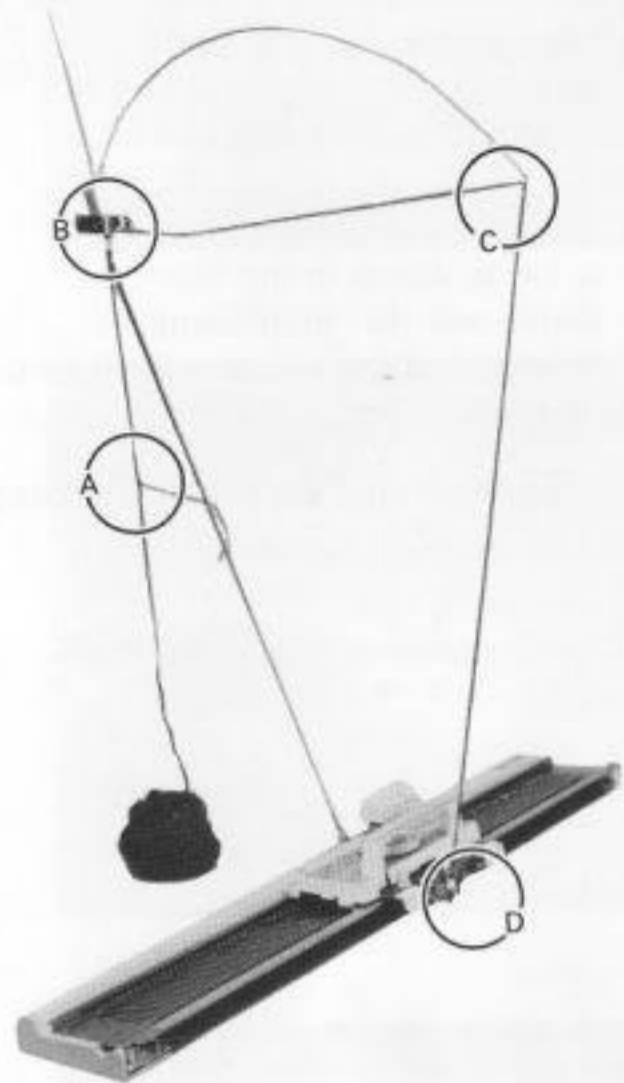
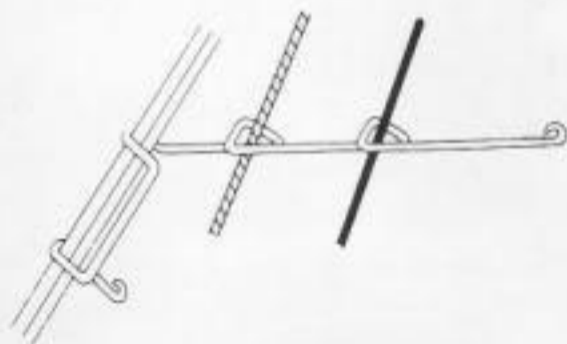
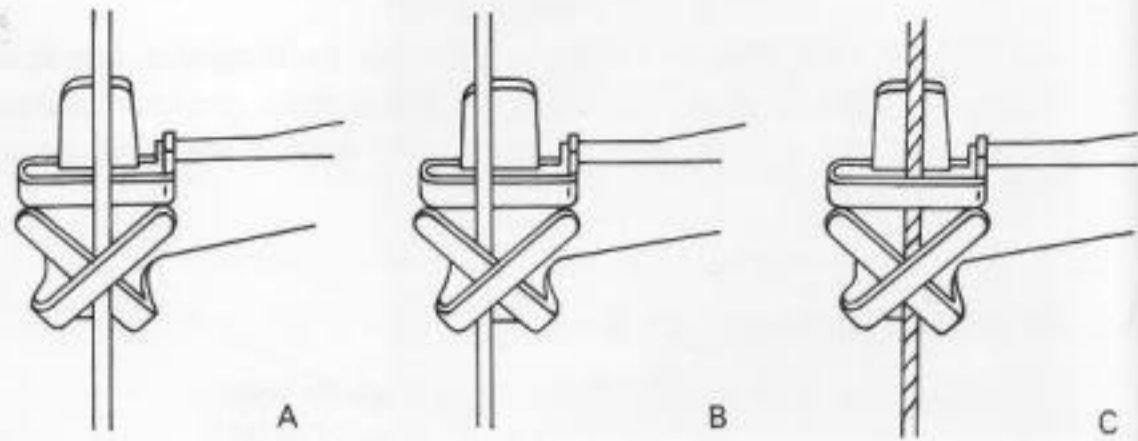

Fig.30
Fig.31
Fig.37
(Fig.30-A and Fig.31)
- b) up through yarn trap unit. (Fig.30-B)
c) through the pigtail at the end of the long wire take-up arm. (Fig.30-C & Fig.36)
d) down to the carriage feeder (Fig.30-D) in the following sequence: Fig.37-A, B & C.
The function of the overhead feeder is to guide the wool from ball or cone to the carriage feeder and by means of the yarn trap unit (Fig.30-B) to bend the long wire take-up arm downwards during knitting as shown in Fig.30-C.